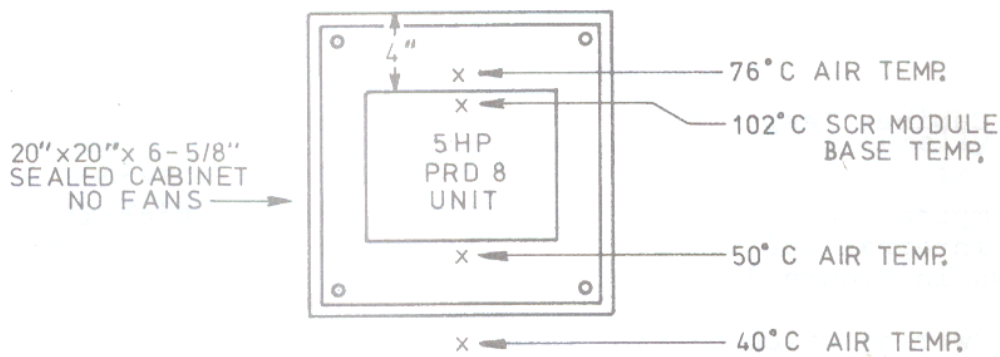
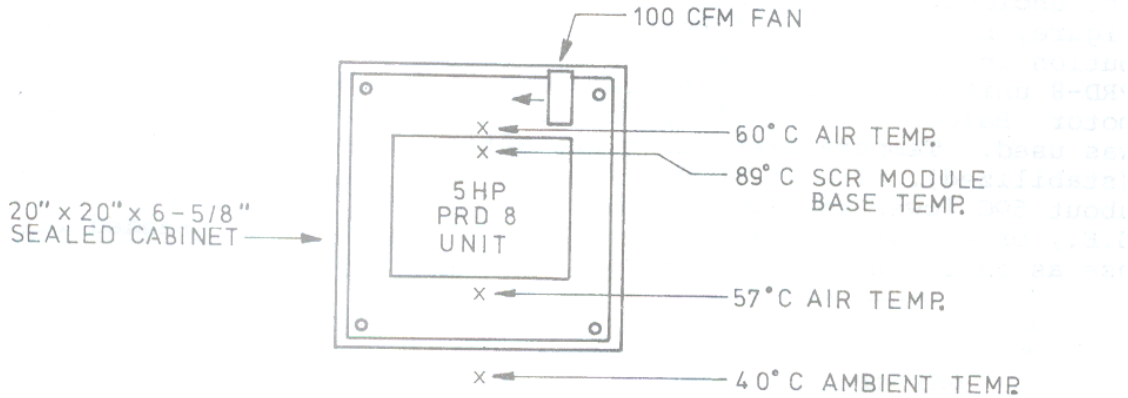

FIGURE 2
FIGURE 3
b) with no cabinet fan	50°C below uppermost PRD-8 (See Figure 2)
For lower horsepower units, physical fit of the PRD-8 unit in the enclosure is the limiting factor in sizing. The following figure, based on actual tests, shows cabinet temperature distribution in a sealed 20" x 20" x 6-5/8" cabinet in which a 5 hp PRD-8 unit was mounted. No fans were utilized and a worst-case motor (Baldor 5 hp, 2400 rpm motor) operated at 100% rated load was used. Temperatures shown are after 3 hours of operation (stabilized). The 102°C and 76°C temperature readings would be about 5°C lower if higher inductance motors (such as powertron, G.E., or Reliance) were used. Figures 2 and 3 are intended for use as an engineering guide for cabinet selection.
The temperatures shown in Figures 2 are within acceptable limits. If other equipments which generates significant heat is installed in the cabinet with the PRD-8, however, increase enclosure size or add a circulating fan to distribute heat within the enclosure.
Figure 3 shows the effect of adding a circulating fan (100 cfm) inside of the enclosure to eliminate heat buildup near the top of the enclosure. The data shown in Figures 3 is useful in designing layouts for cases covered in sections 5.1.2 and 5.1.3. Test conditions for Figures 3 are identical to those stated for Figures 2 except for the addition of the fan.
Cabinet temperatures for a 7 1/2horsepower PRD-8, which includes an internal 100 cfm fan, will be 5°C to 7°C higher than those shown in Figure 3, which is an acceptable level.
In general any arrangement of PRD-8 units in a sealed (NEMA 12 or NEMA 4) cabinet will yield acceptable temperatures if in-cabinet fans are used to prevent localized heat buildup such as is shown in Figure 2. A 4" minimum spacing must be provided between the PRD-8 units, top and sides.